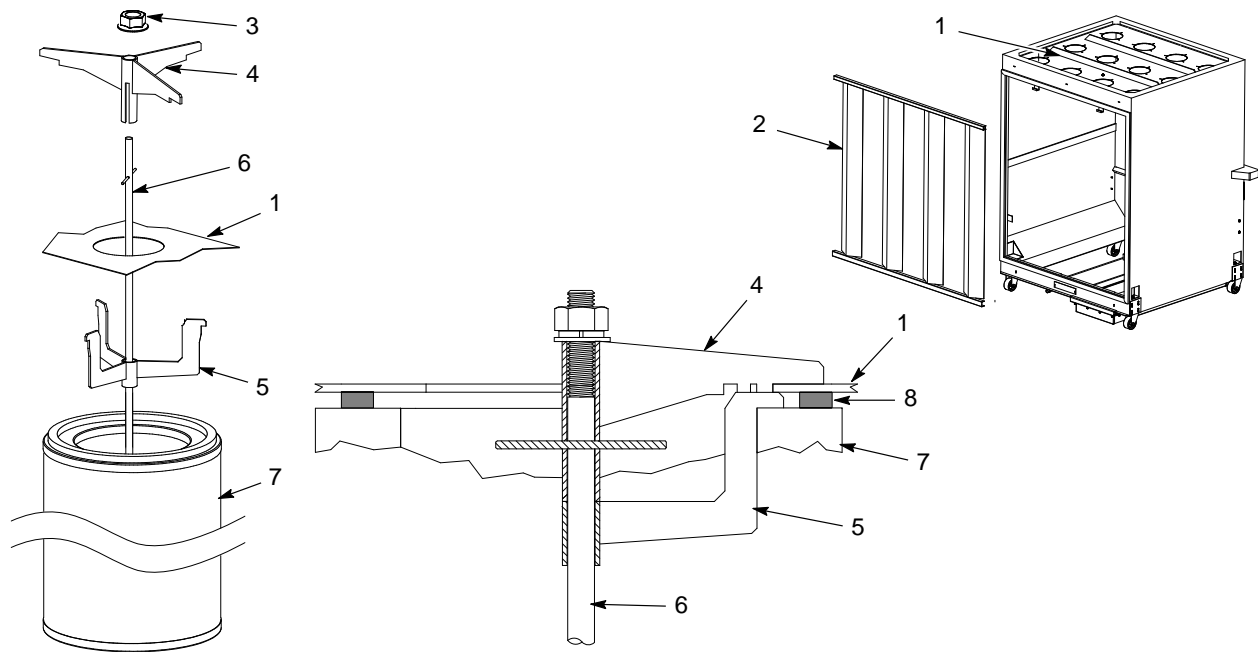

Figure 6-2 36-in Cartridge Filter Replacement
1. See Figure 6-2. Remove the baffle (2).
2. Pull up on the T-handles on the draw rods (6) to hold the cartridge filters (7) against the tube sheet (1).
3. Remove the nuts (3) and filter mounts (4) from the draw rods. Save the removed parts.
4. Remove the cartridge filters (7) from the color module.
5. Unscrew the draw rods from the cartridge filter bosses and remove the filter centering brackets (5) and draw rods from the cartridge filters. Save the draw rods and centering brackets for reuse.
6. Thoroughly clean the sealing surfaces on the underside of the mounting plate (1). Dirty surfaces will prevent the cartridge filter gaskets from sealing properly and allow powder to leak into the fan section.
7. Insert the threaded end of the draw rods (5) through the centering brackets (4), then install them into the filters and screw the ends of the draw rods into the filter bosses, tightening the rods by hand.
9. Use the T-handles to pull the cartridge filters up against the filter mounting plates. Install the filter mounts (3) on the draw rods, making sure the slots in the filter mounts slip over the T-handles.
10. Install nuts (2) on the draw rods.